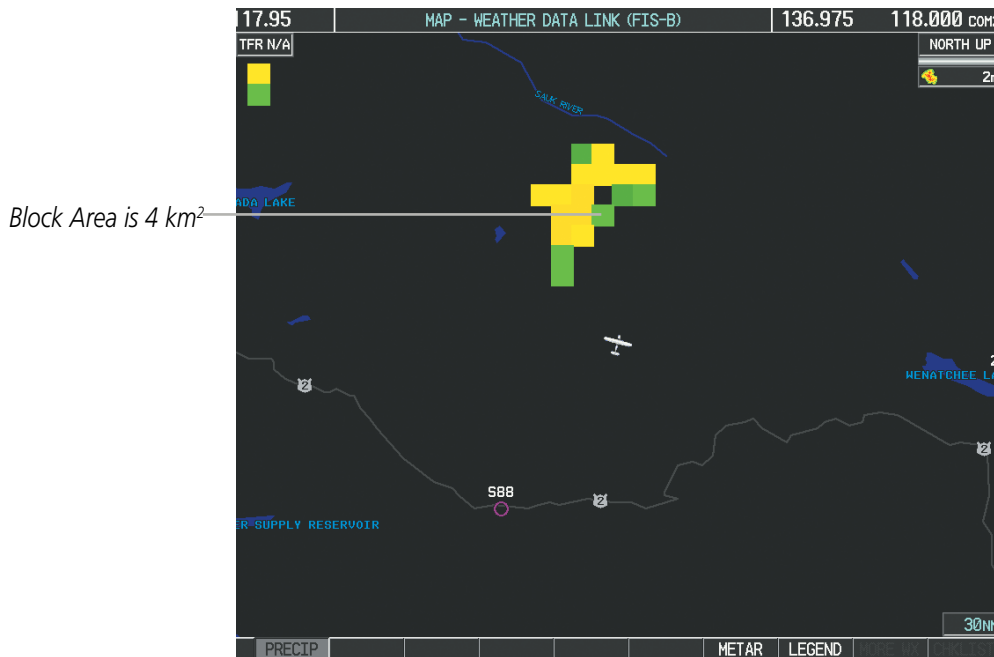

Figure 6-106 Regional Radar Data - Zoomed
- When zoomed in to a range of 30 nm, each square block on the display represents an area of four square kilometers. The intensity level reflected by each square represents the *highest* level of NEXRAD data sampled within the area (Figure 6-106).